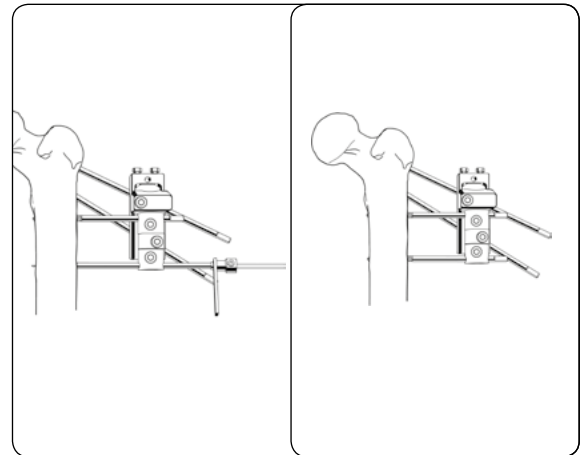

Fig. 8
The distal diaphyseal screw is now inserted through a screw guide after pre-drilling as before. The distal screw seat of the anterior clamp can rotate axially in relation to the proximal screw seat to enable ideal positioning of this second diaphyseal screw in the center of the bone. The clamp is locked in this position by tightening the locking screw (7) (see components table). After inserting the second diaphyseal screw the screw guide is removed and the clamp cover definitively tightened. At the end of the procedure, confirm that the fracture is reduced, the cephalic screw tips are central in the head in the lateral view and about 10mm from the articular surface, and the diaphyseal screws fully engage both cortices. All locking screws are finally tightened using the long arm of the Allen Wrench. The fixator should be about 20mm from the skin to allow for pin site care. The screw shafts should now be cut with the bone screw cutter close to the fixator clamps, leaving about 6mm of screw shank protruding from the fixator, and the cut ends protected with screw caps. The arms of the cutter should be extended for greater efficiency, and the outer end of the screw held to prevent it from causing injury (Fig 8).